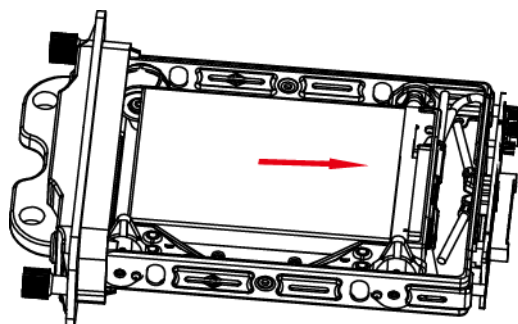

Figure 2-7 Push HDD
Step 5 Push the HDD along the direction shown in Figure 2-7 to connect HDD with socket of dummy HDD.